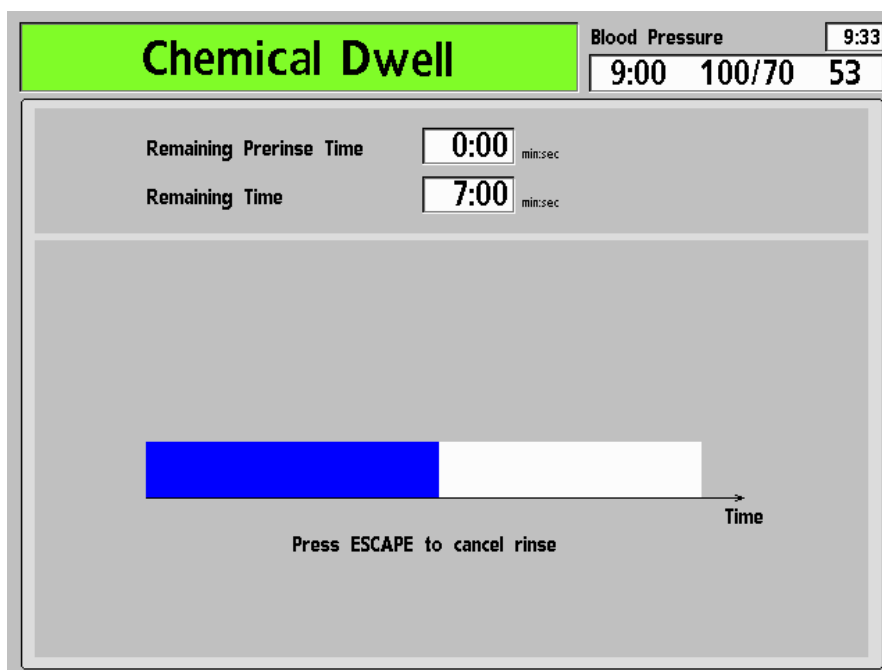

Figure 56 – The Chemical/Dwell Screen
5. The “Chemical/Dwell” screen appears in the display (see Figure 56). The progress of the disinfection program is indicated by the horizontal bar. The program starts with a 45 second rinse. The message, “Rinsing Line, Please Wait” is displayed in the Status Box.